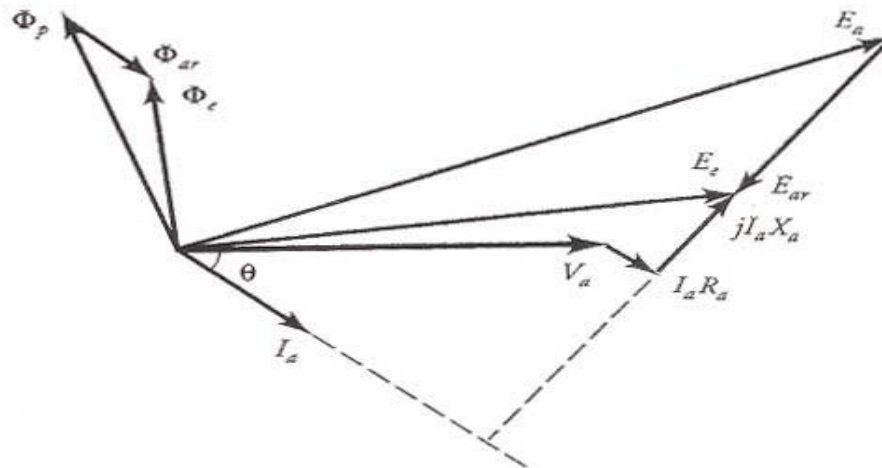

**Figure 3: A per-phase equivalent circuit showing the induced emf in the armature winding due to the armature reaction.**
- (d) The flux  $\Phi_{ar}$ , in turn, induces an emf  $\tilde{E}_{ar}$  in the armature winding.  $\tilde{E}_{ar}$  is called the **armature reaction** emf. The armature reaction emf  $\tilde{E}_{ar}$  lags the flux  $\Phi_{ar}$  by  $90^\circ$ . Hence the effective generated voltage per-phase  $E_e$  is the algebraic sum of the no-load voltage  $E_a$  and the armature reaction emf  $\tilde{E}_{ar}$ . That is,  $E_e = E_a + \tilde{E}_{ar}$ . An equivalent circuit showing the armature reaction emf is given in Figure 3.